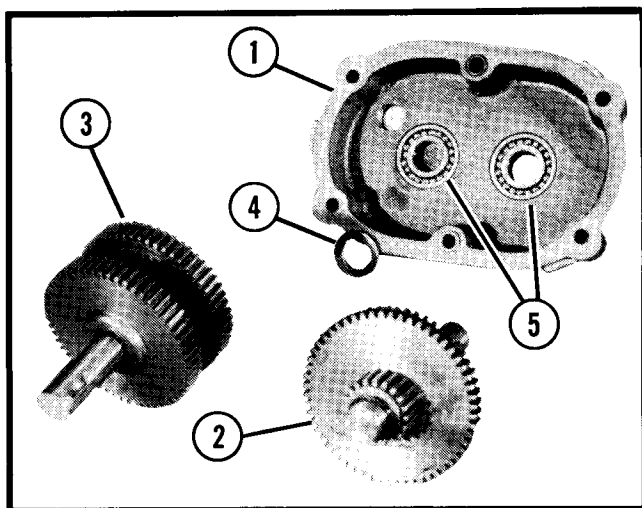

Figure 27. Transmission
4. Take out the gears, shafts and spacer. Remove the bearings and grease seal from both case halves (See Figure 27).